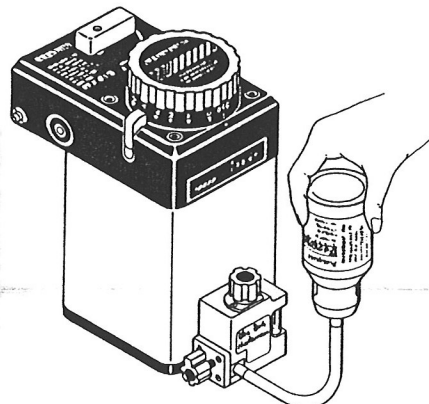

Figure 5-6
- a. Insert the bottle's adapter tube into the vaporizer's filler port. (See figure 5-6.)